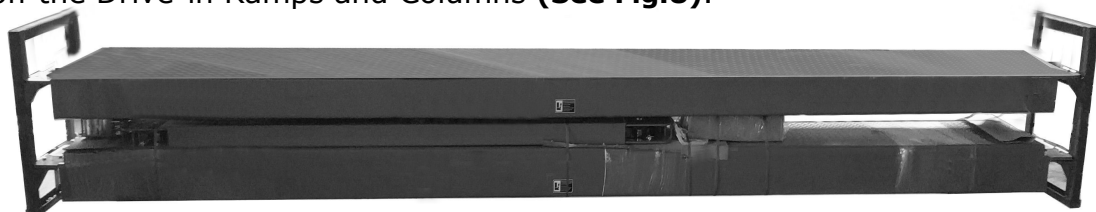

Fig. 8
4. Take off the Drive-in Ramps and Columns (See Fig.8).